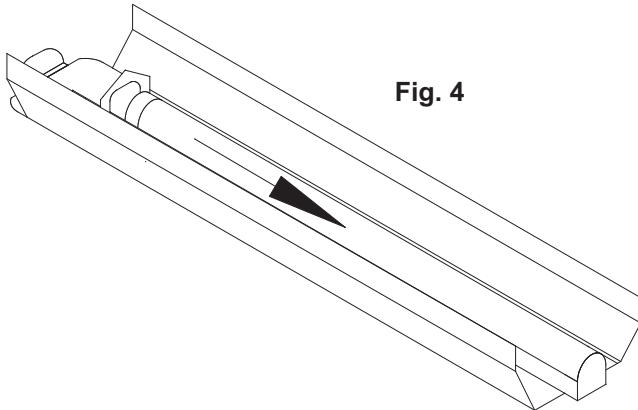

Fig. 4
- Slide the light fitting back until it is clear of the first mount (**Fig. 4**).